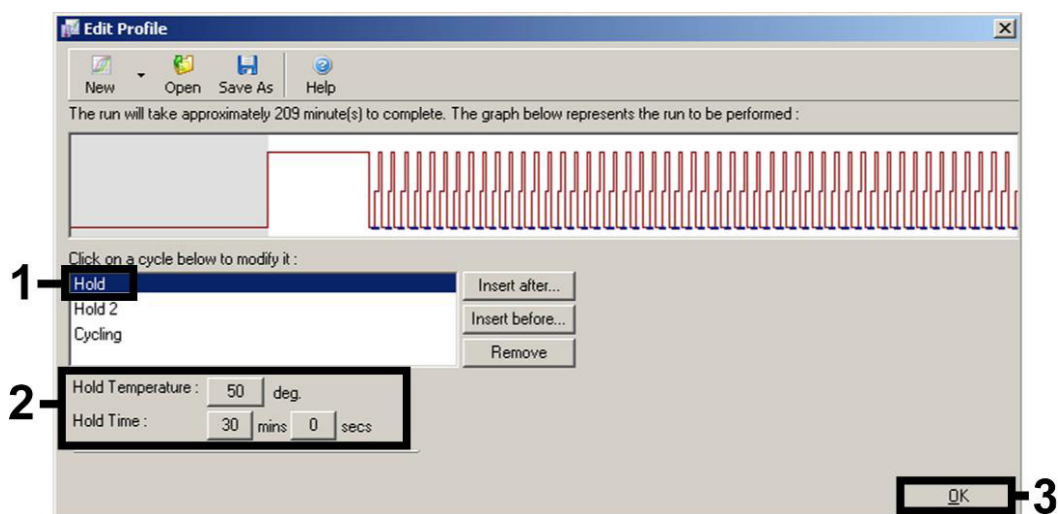

**Figure 3. Editing the profile.** Screenshot for the *artus* HI Virus-1 QS-RGQ Kit is shown as an example.
- Click the “Edit Profile” button in the next “New Run Wizard” dialog box (Figure 3). Program the appropriate temperature profile for the relevant *artus* QS-RGQ Kit as shown in Table 1, using the example screenshots in Figures 3–6 as a guide (screenshots for the *artus* HI Virus-1 QS-RGQ Kit are shown as examples).
6. The detection range of the fluorescence channels has to be determined according to the fluorescence intensities in the PCR tubes. Click "Gain Optimisation" in the "New Run Wizard" dialog box (see Figure 3) to open the "Auto-Gain Optimisation Setup" dialog box. Set the calibration temperature to match the annealing temperature of the amplification program, and adjust the fluorescence channel sensitivities (Table 2 and example screenshot in Figure 7).